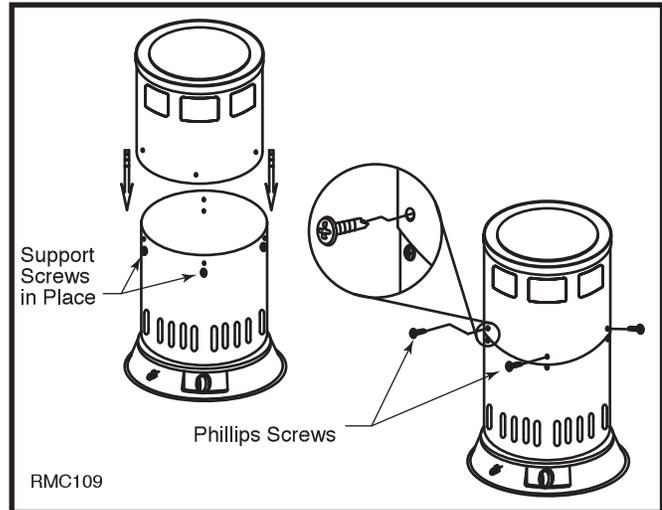

Fig. 4 Attach top with four phillips screws.
6. Place upper shell assembly onto shell lower. Secure with four phillips screws in top hole of lower shell. (Fig. 4)